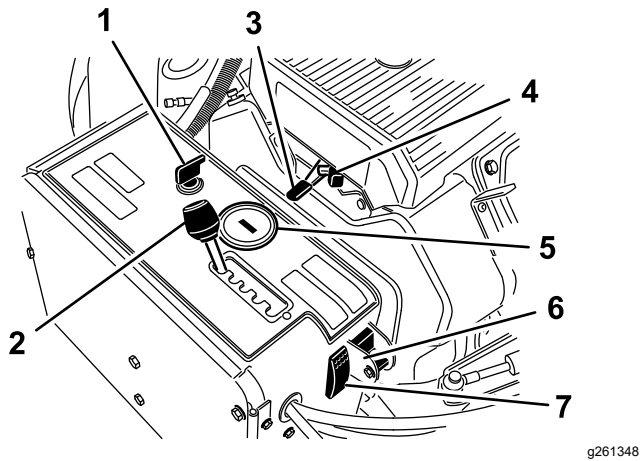

Figure 14
Use the ignition switch (Figure 14), to start and shut off the engine. The switch has 3 positions:
Use the choke when starting a cold engine (Figure 14).
Rotate the switch to the down position to turn off the TrueCore feature (Figure 14). Remove the bolt to access the manual ground switch.
Press the system reset switch (Figure 14) to raise the coring head if the machine becomes disabled (e.g., the machine runs out of fuel).
Move aerator spacing lever (Figure 14) to desired hole spacing or to T for transport.
Use the throttle lever (Figure 14) to control the engine speed. Moving throttle lever forward increases engine speed (FAST position); backward decreases engine speed (SLOW position). The engine speed regulates the speed of the coring head and controls the ground speed of the machine.
- When the engine shuts off, the hour meter/tachometer (Figure 14) displays the number of hours the engine has run.